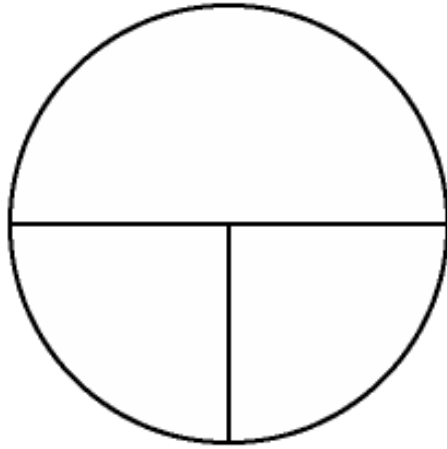

Figure 5.2: Draw a “T” on the bottom of your petri dish as shown.
2. Use a marker or wax pencil to draw a T on the bottom of a plate of nutrient agar. This divides the plate into three sections (Figure 5.2). One section covers one half the plate. The other half is divided into two quarters.